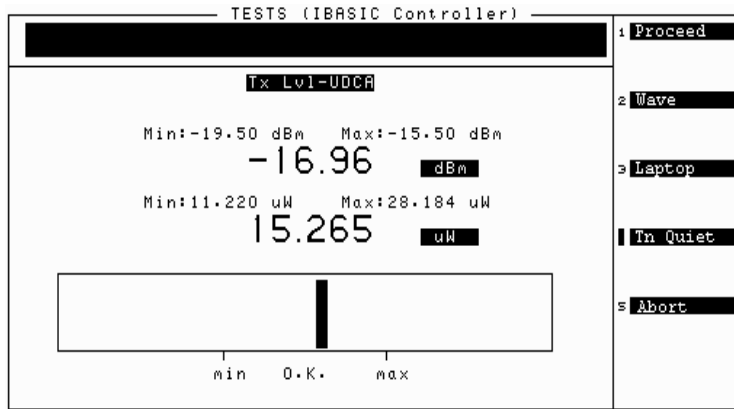

Figure 28 Power Meter Screen for TX Level - UDCA Measurement
1. If you set the Use Power Meter Screen When parameter to None or if you press k1 (Proceed) on the power meter screen (see figure 28), the Test Set will show the test result table on the display when the testing is complete. If the measurement's results fall outside the specified limits, the measurement will fail. A failure is indicated by an F in the P/F column.